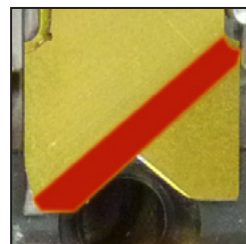

Figure 8.2 Stripping blade installation position
- ▶ Remove the screws (1).
- ▶ Change the stripping blade (2).
- ▶ Assemble each blade pair so that the bevelled edges point outwards (see figure 8.2).